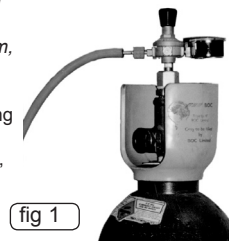

fig 1
- 3.2.2. Fit the gas regulator on the Bull Nose Adaptor and connect it to the machine gas hose (fig.1).